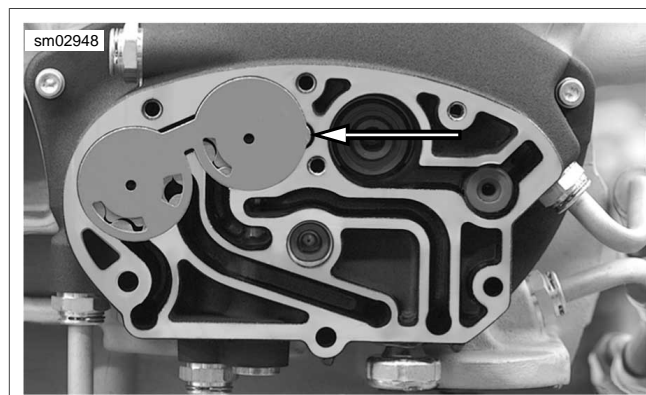

Figure 3-93. Oil Pump Separator Plate
4. See Figure 3-93. Install the separator plate.